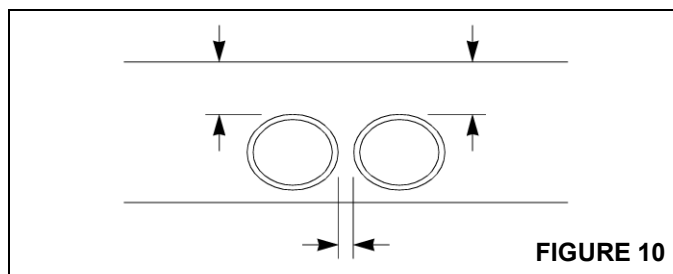

FIGURE 10
2. Use a paint marker to reference the location of the damaged lacing on the chord member (Figure 10). Transfer the marks out of the repair area so they are not removed during the lacing replacement process. These marks will help locate the replacement lacing.